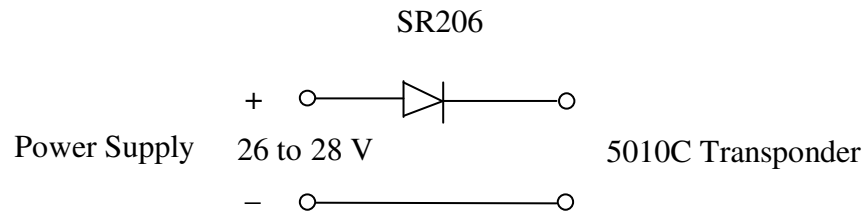

Figure2
2. Connect a diode (SR206) in series with the external power supply before connecting it to pin 3 (refer to Figure 2).